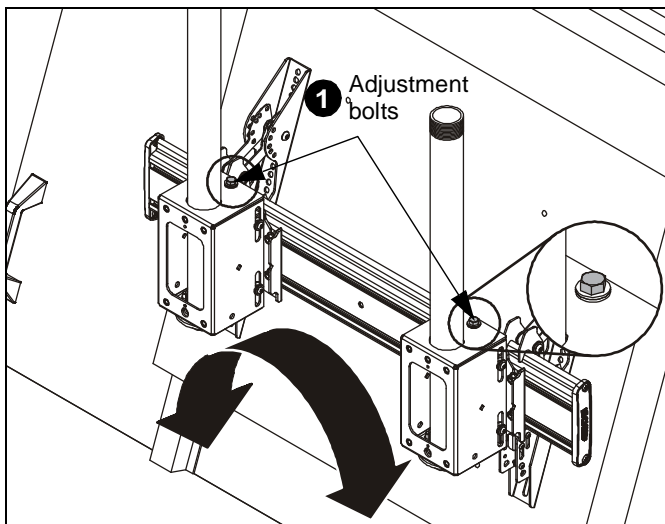

Figure 12
1. Turn the adjustment bolt in the direction necessary to level or adjust height. (See Figure 12)